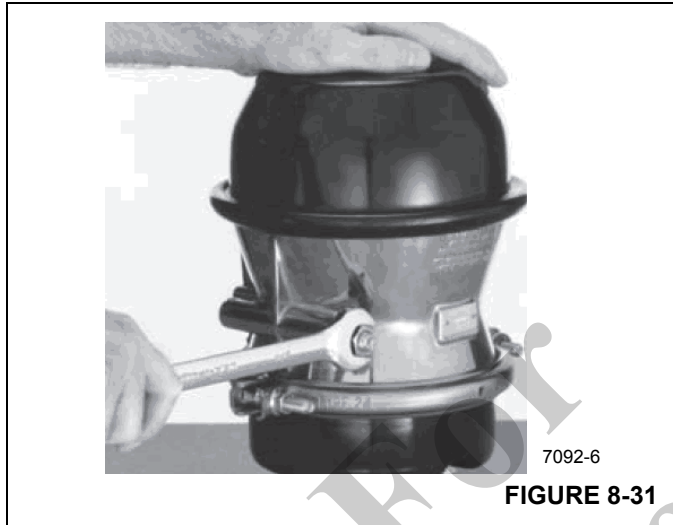

FIGURE 8-31
10. When re-installing the release-bolt, flatwasher and release-nut into the storage pocket, apply 13.5 Nm (10 lb-ft) torque on nut against the flatwasher (Figure 8-31).